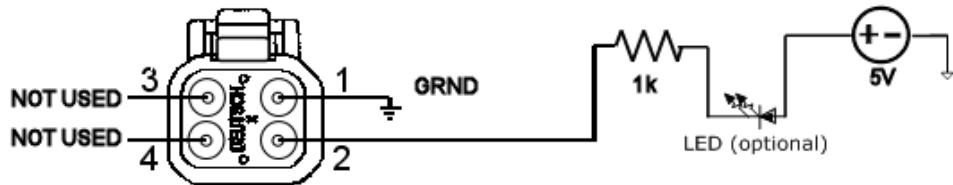

Figure 8. Typical connection to the monitor cable. (Users to verify values based on their circuit design).
2. The signal "Overvoltage" (Pin 2) is an open collector output indicating when any cell voltage is above the threshold voltage. A pull-up resistor ($\geq 1\text{k}\Omega$) connected to a 5V supply should be connected to Pin 2. In this configuration, the voltage at Pin 2 will be $\sim 5\text{V}$ when the circuit is not active. When a cell in the module goes into an over-voltage condition, the output of Pin 2 goes low. This signal can be used as a signal to the system electronics to stop charging in order to allow the cell(s) to discharge to an acceptable voltage through the built-in passive balancing system. Figure 8 shows a typical connection to use this system.